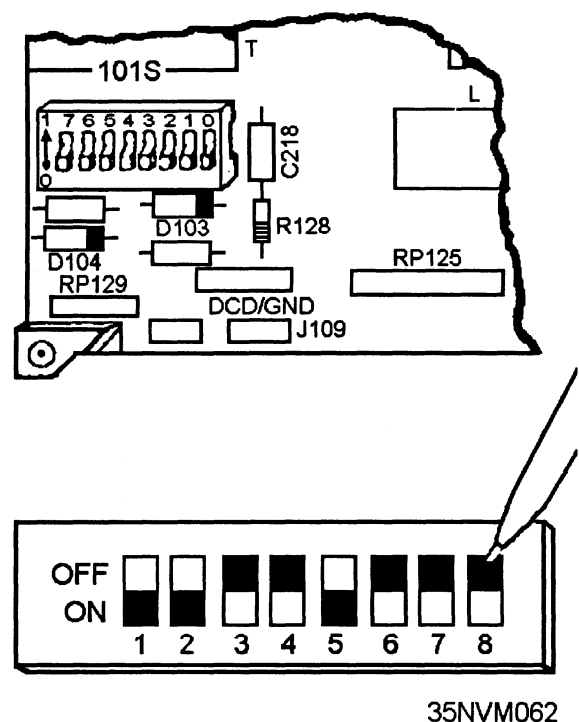

Figure 8-18.—DIP switches.
**DIP Switches.**—Dual-inline package (DIP) switches are made to be installed into integrated circuit sockets or board connections. Each switch in the package (fig. 8-18) normally indicates one of two conditions by its ON/OFF status. The board mounted DIP switches are designed so you can manually position them during component installation, removal, or initial system configuration to inform the processor of the availability of the particular components as well as the requirements of the system operators. They affect such operations as video display (color and resolution) and port(s) selections. Individual switches or combinations of two or three switches are used to specify a variety of configuration options.